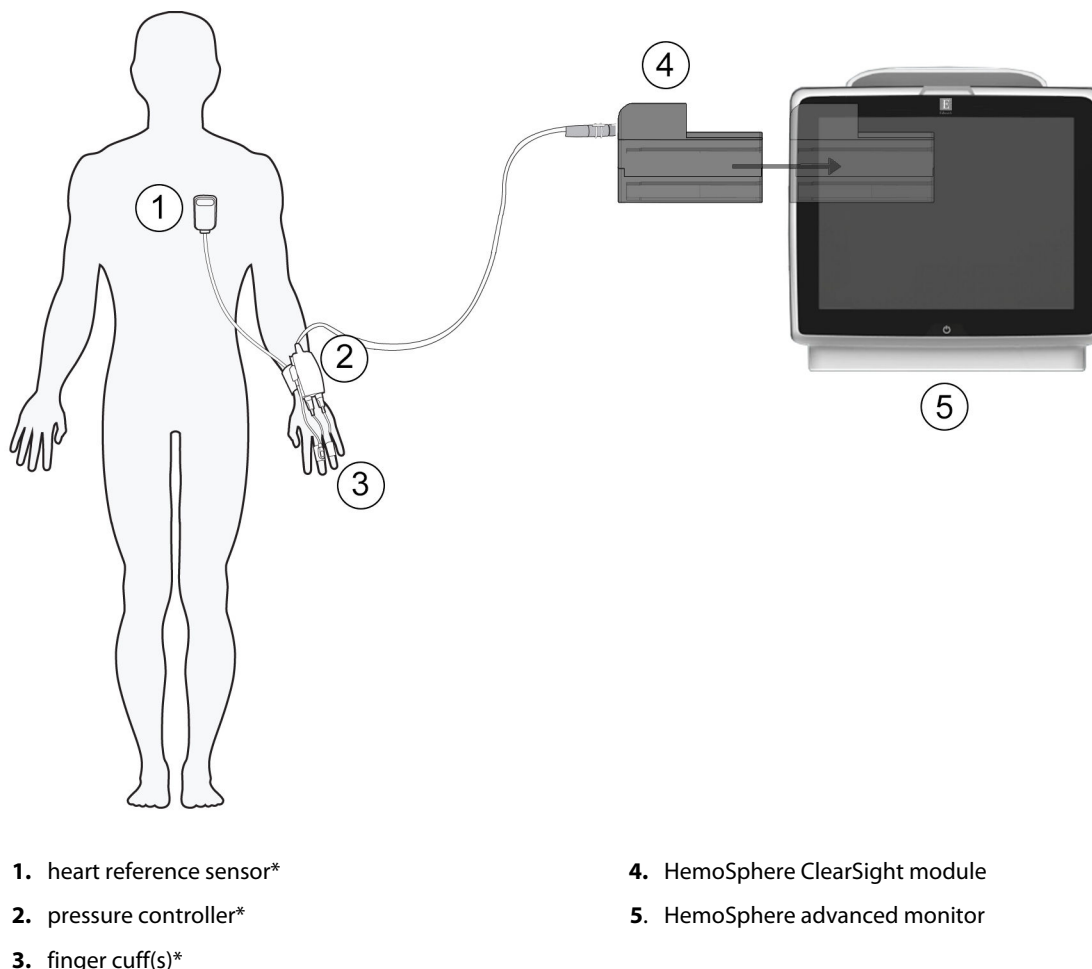

Figure 11-1: HemoSphere non-invasive system connection overview
The HemoSphere noninvasive system is composed of the HemoSphere advanced monitor with ClearSight module and connected pressure controller, heart reference sensor, and compatible Edwards finger cuff(s). See system connections in Figure 11-1 on page 204. Accurate measurement of the patient's blood pressure and key hemodynamic parameters is based on the Volume Clamp method, Physiocal method and ClearSight algorithm.
The HemoSphere ClearSight module is compatible with all approved Edwards finger cuffs. See Figure 11-1 on page 204 for an overview of the HemoSphere non-invasive system connections.
Components indicated by * in Figure 11-1 on page 204 legend are APPLIED PARTS as defined in IEC 60601-1 that in normal use necessarily come into physical contact with the patient for the HemoSphere non-invasive system to perform its function.
3. Attach the pressure controller cable to the HemoSphere ClearSight module. (Figure 11-1 on page 204)